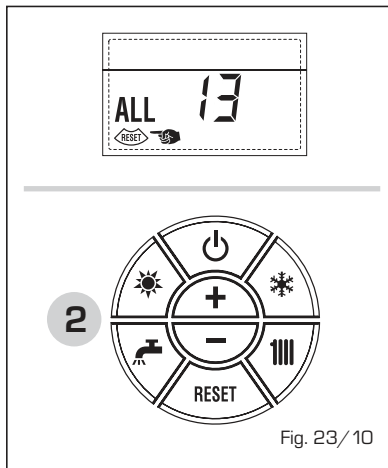

Fig. 23/10
- **ANOMALÍA SONDA HUMOS "ALL 14" (fig. 23/11)**